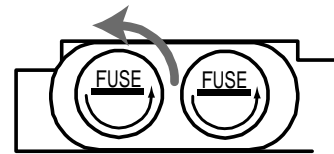

Fig.7-3
3. Use a flat-blade screw driver and turn the fuses to the arrow directions mentioned on the fuse holders. (See Fig.7-3, counter-clockwise)